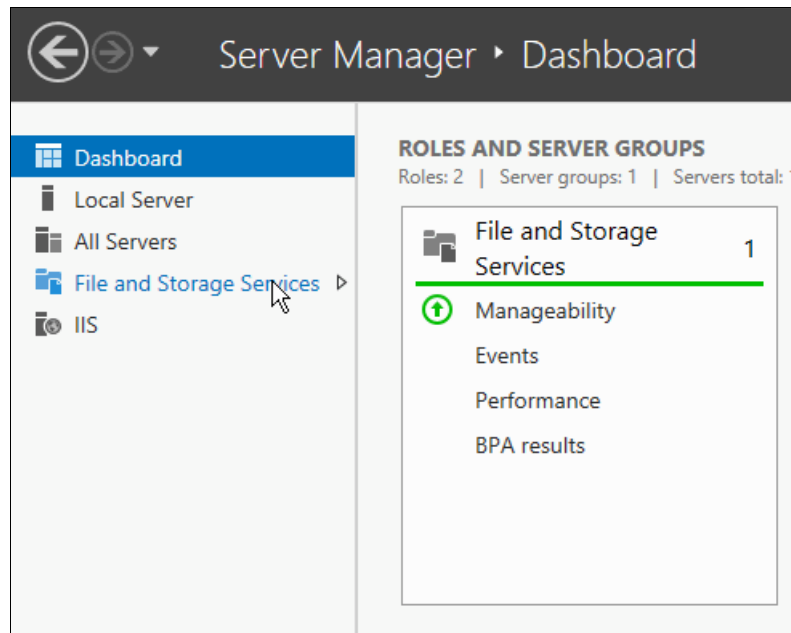

Figure 5-27 Opening File and Storage Services in Server Manager
2. Go to **File and Storage Services**, as shown in Figure 5-27.